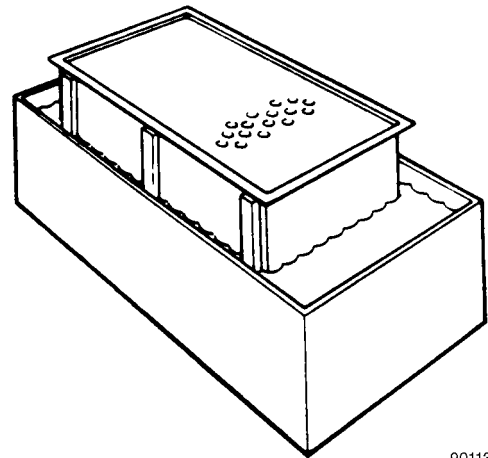

FIGURE 40-9. WASHING AND SOAKING THE PRECLEANER SECTION
2. Loosen clamps (8) and remove dust cups (10) and O-rings (9) from the precleaner section. Wash the dust cups with a water and liquid soap solution.
3. Submerge the precleaner section in a solution of Donaldson D-1400 and warm water (see Figure 40-9). Mix the solution according to the directions on the package. The tube section must be down. Soak for 30 minutes, then remove the precleaner section from the solution. Rinse thoroughly with fresh water and blow dry.